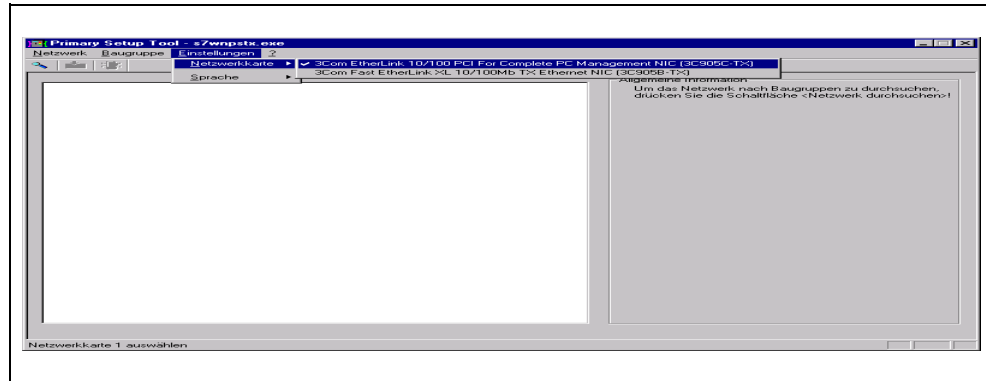

Figure 6-2 Configuring the Network Adapter
4. Once you have selected the language, the menu shown in Figure 6-2 opens. Select a network adapter with **Settings -> Network Adapter**. All the network interfaces (maximum of four) found in your system will be listed. Select the network adapter you require by clicking on it. Make sure that you read the information in the "readme" file on the supplied CD.